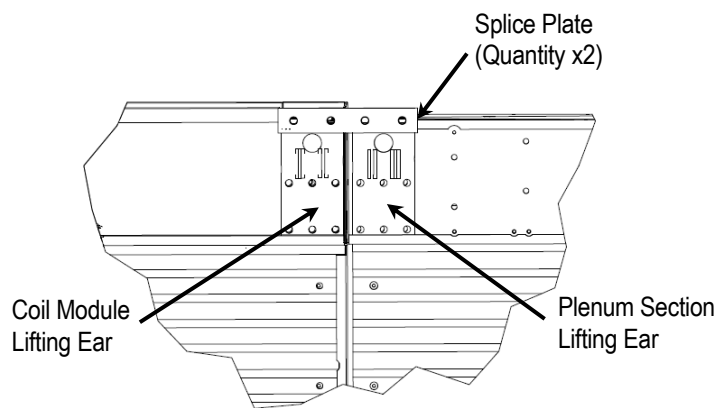

Figure 21. External Splice Plate Installation
12. Install external splice plates on the upper section plate for every pair of lifting ears (4 locations total). Use two splice plates, one on top of the other at these locations. Refer to **Figure 21**. Use 1/2" Grade 5 hardware.